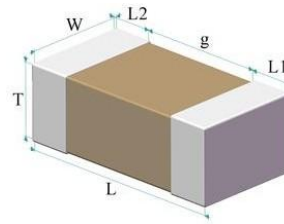

Fig.1 Structure &amp; Dimension
| 2   | Size Code                                 | See Fig.1 and ② Size Code                                                                                                                                                                                                                                                        | Measuring by gages which precision is not less than 0.01 mm.                                                                                                                                                                                                                                                                |